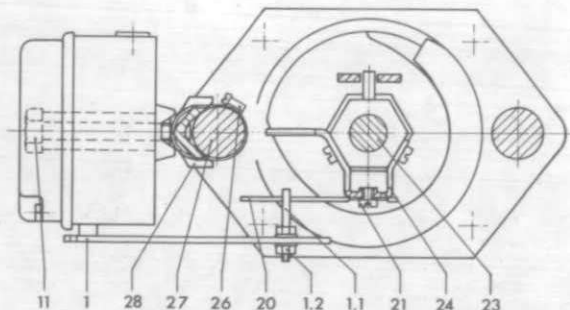

Figure 6: Attachment in the case of rod type valve (e.g. type 201)
2.2 Attachment to rod type valve (figure 6)